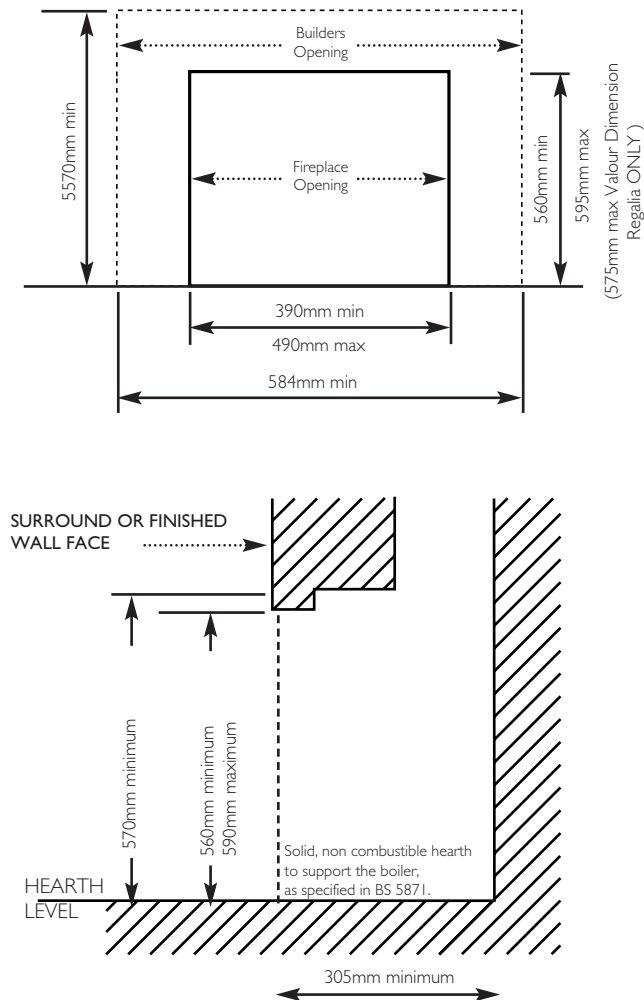

Fig. 9
### 5.1 Builders Opening (Fig. 9)
1. If a fireplace surround is to be used, it must be centrally placed and have opening sizes as shown in Fig. 9.